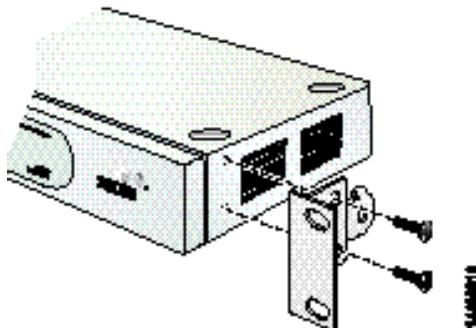

Figure 2-2 Mounting Bracket Installation (Ethernet Hub)
1. Secure one mounting bracket to each side of the first hub as shown in Figure 2-2. Use the two brackets and four pan-head Phillips screws (8/32 x 0.5-inch) provided.